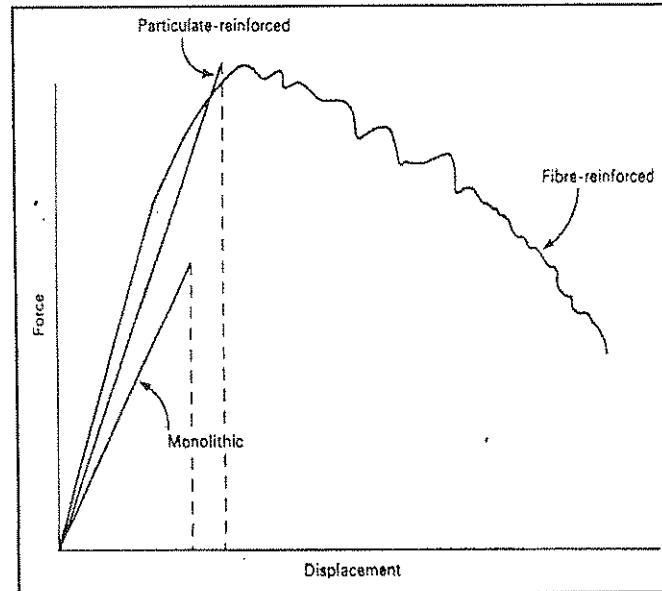

Figure 3
- (a) Figure 3 shows the schematic of force-displacement curve for a monolithic ceramic and ceramic matrix composite. By referring to Figure 3,